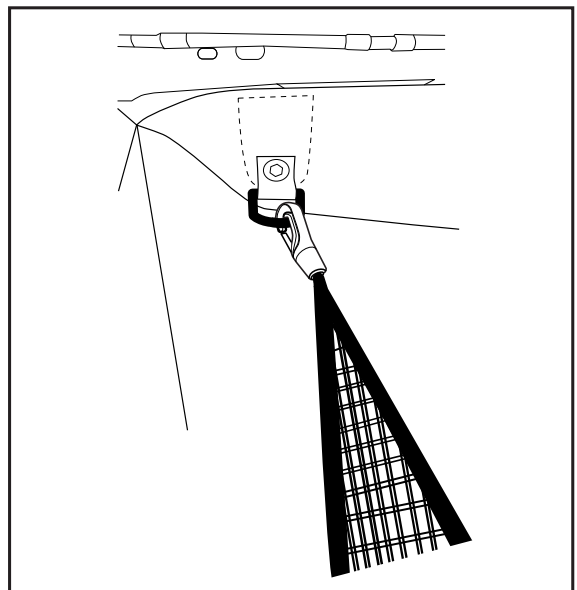

Fig. 6
7. Install locking hook clips onto mounted D-Rings (x2) (Fig. 6).